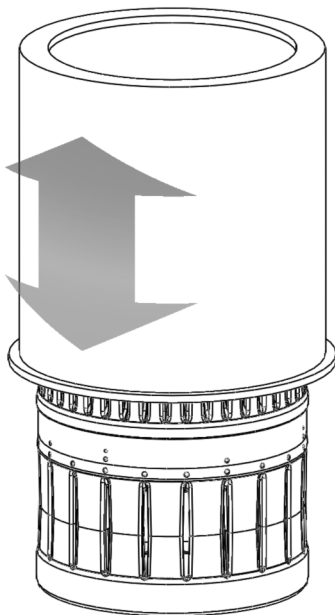

Figure 16 -Remove tube from core and replace.
- Remove the tube as shown in Figure 16 below and replace it with a new tube. The inner face of the replacement tube should be thoroughly lubricated with glycerin, dish soap, or similar non-caustic lubricant prior to installation.